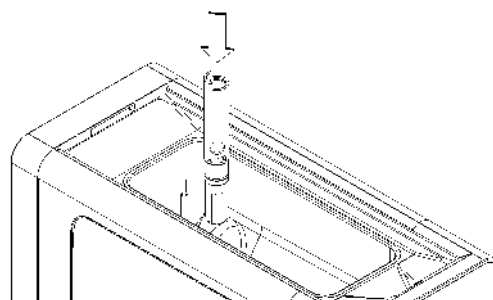

figure 3
**1** Insert the lower part of the mixing pipe into the purpose-provided connection slot between the tank and the cylinder, making sure you direct it in such a way as to insert it fully in its seat. (see figure 3)